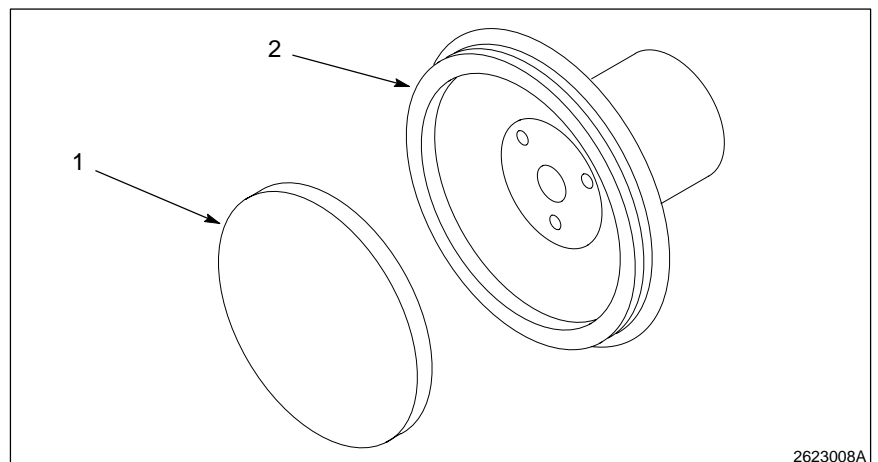

Fig. 5-1 Diffuser disk removal
2. See Figure 5-1. Remove the bell cup (2) by rotating the bell cup counterclockwise while facing the front of the powder bell.
3. Remove the diffuser disk (1) from the bell cup (2). Check the diffuser disk for damage. Replace if necessary.